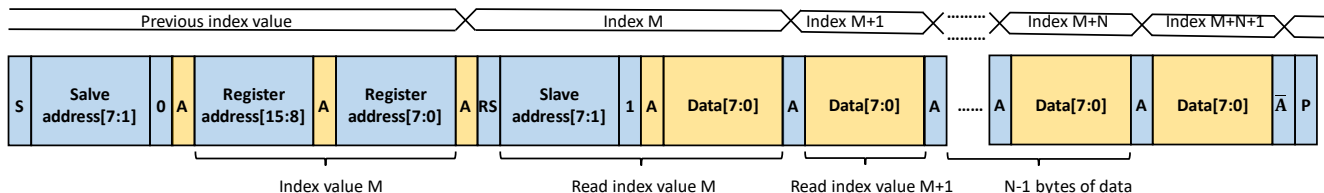

Figure 14. 2-wire serial communication interface timing diagram
1. Start and stop condition (refer to Figure 14 for details)